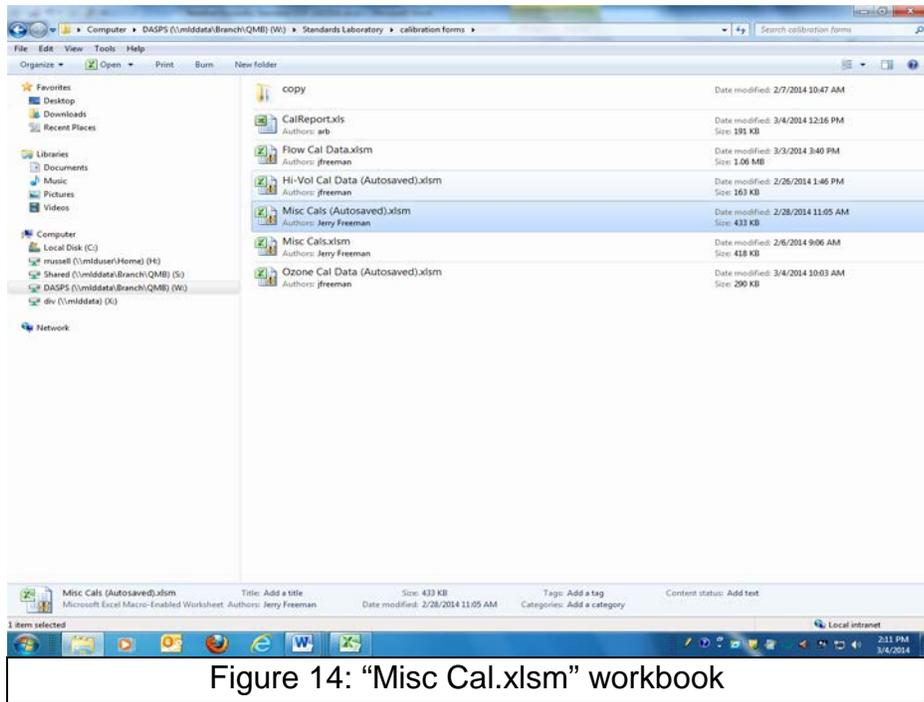

Figure 14: “Misc Cal.xslm” workbook
12.7 Double Click the “Misc Cal.xls” workbook”. See Figure 14.